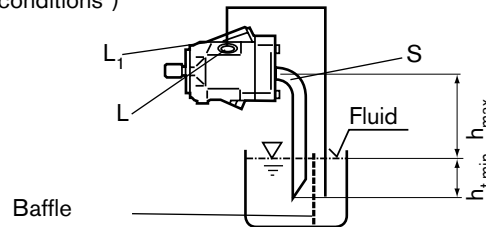

Fig. 4
b) If the min. fluid level is below the top of the pump: pipe "L" and "S" acc. to fig. 4, " L_1 " plugged (see also limit of conditions).
a) Mounting above the tank: see fig. 4. (see also "Limit of conditions")